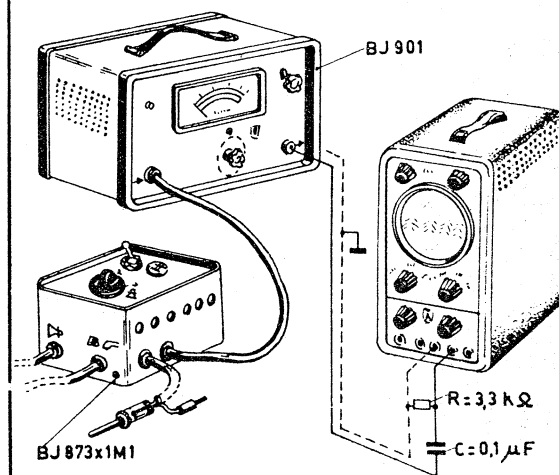

Fig. 13
6.2 Check the variations of amplitude at the oscilloscope when playing back. In order to cut out the interfering frequencies due to induction of the mains on the sound head, insert between the output of the projector and the input of the oscilloscope a high-pass filter the dip frequency of which has been set to  $f_0 = 500$  Hz. See fig. 13.